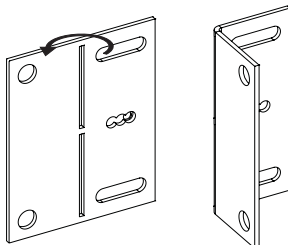

Figure 27
7. Bend the nailing flanges 90 degree as shown in **Figure 27.**